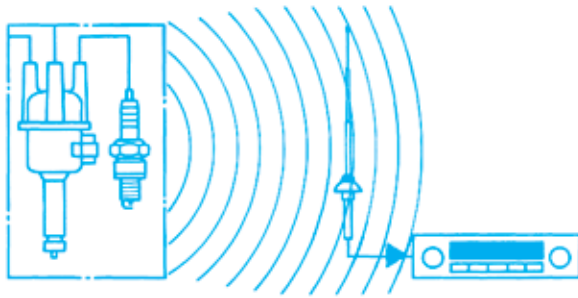

Figure 4-33. Radiation interference: EMI waves travel through the air and are picked up by wiring that acts as a receiving antenna.
- Electromagnetic radiation (Figure 4-33).